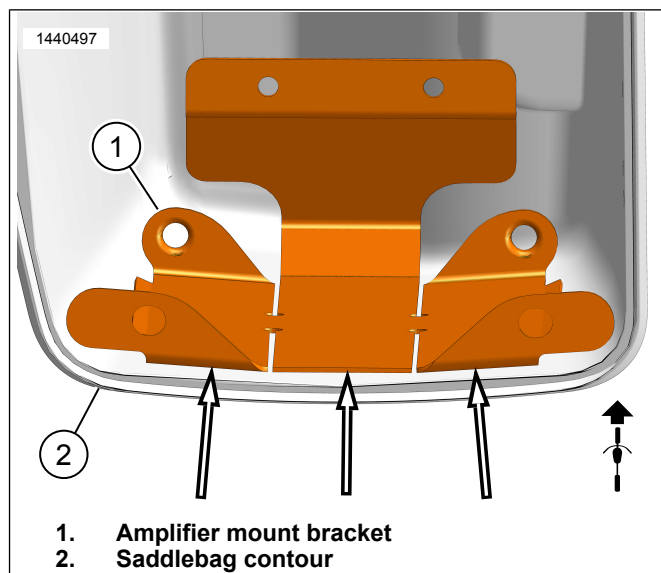

Figure 12. Saddlebag Contour
- b. See Figure 12. Use slits in the mounting bracket (1) to bend and conform to the saddlebag contour (2) without rocking. This will ensure better contact and adhesion with the tape. Do not peel tape at this time.